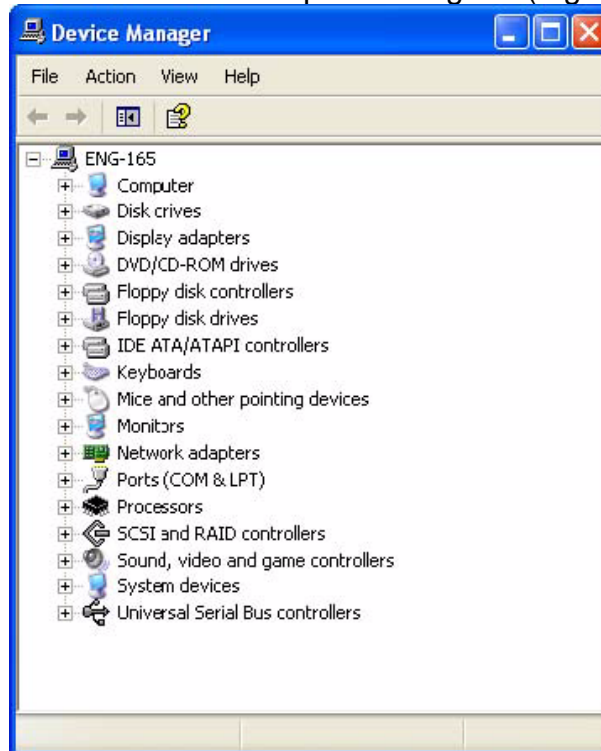

Figure 7-4 Device Manager
1. Access the Device Manager as described in steps 1 through 3. (Figure 7-4).